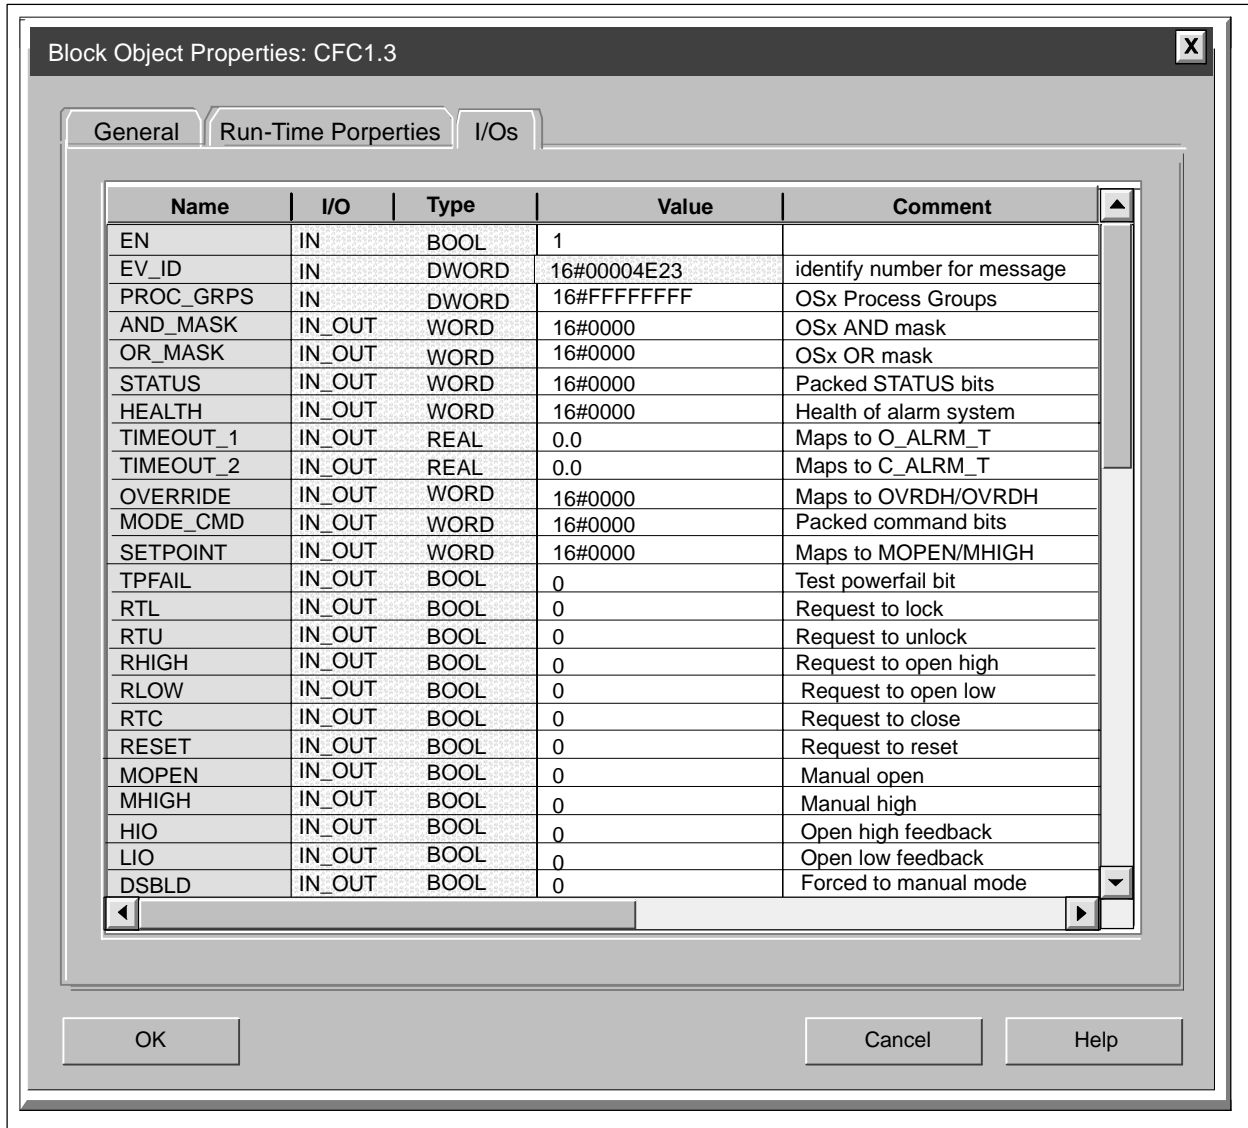

Figure 2-5 Setting Initial Value in the Block Object Properties I/O Folder
2. Click the **I/Os** tab to display the list of inputs and outputs for the block (Figure 2-5).